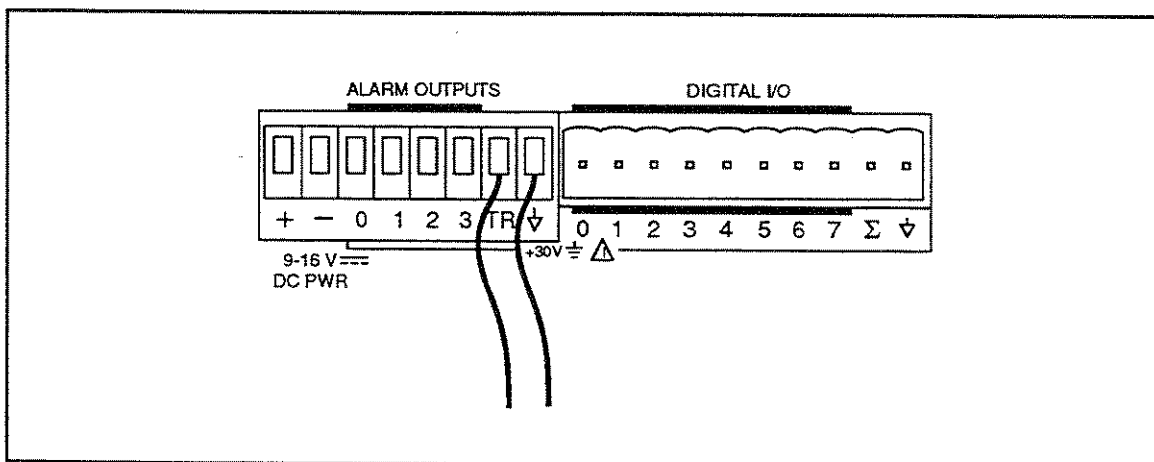

Figure 6-5. External Trigger Test
2. Remove the Alarm Output eight terminal connector module from the rear of Hydra and all external connections to it. Connect short wires (to be used as test leads) to the ground ( $\downarrow$ ) and TR terminals. Leave other ends of wires unconnected at this time. Reinstall the connector. Refer to Figure 6-5.